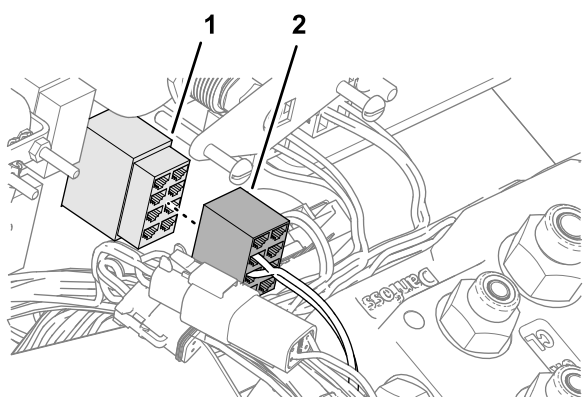

Figure 93
6. Plug the 8-socket connector of the kit wire harness labeled ROAD SWITCH (Figure 93) into the 2-position switch that you installed in Assembling the Road Switch to the Dash (page 30).